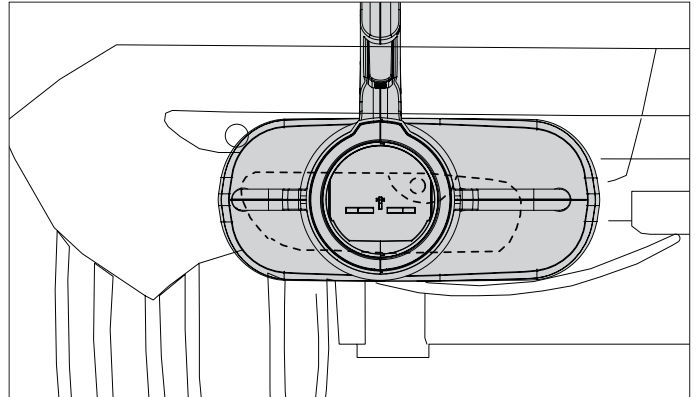

Fig. 5.6 Close up of skirt on the exhaust pipe
- Make a cut out in the grommet. Refer to fig. 5.6.